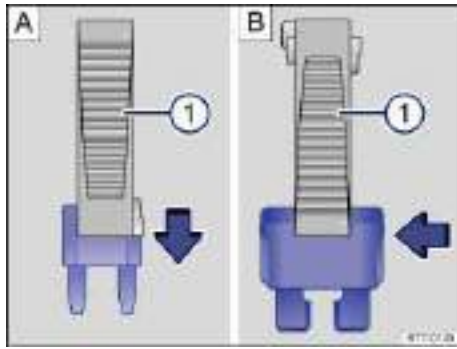

Fig. 199 Removing or inserting a fuse using the plastic tweezers.
- For *small fuses*, slide the tweezers ⇒ fig. 199 \(1\) onto the fuse from the top **A**.